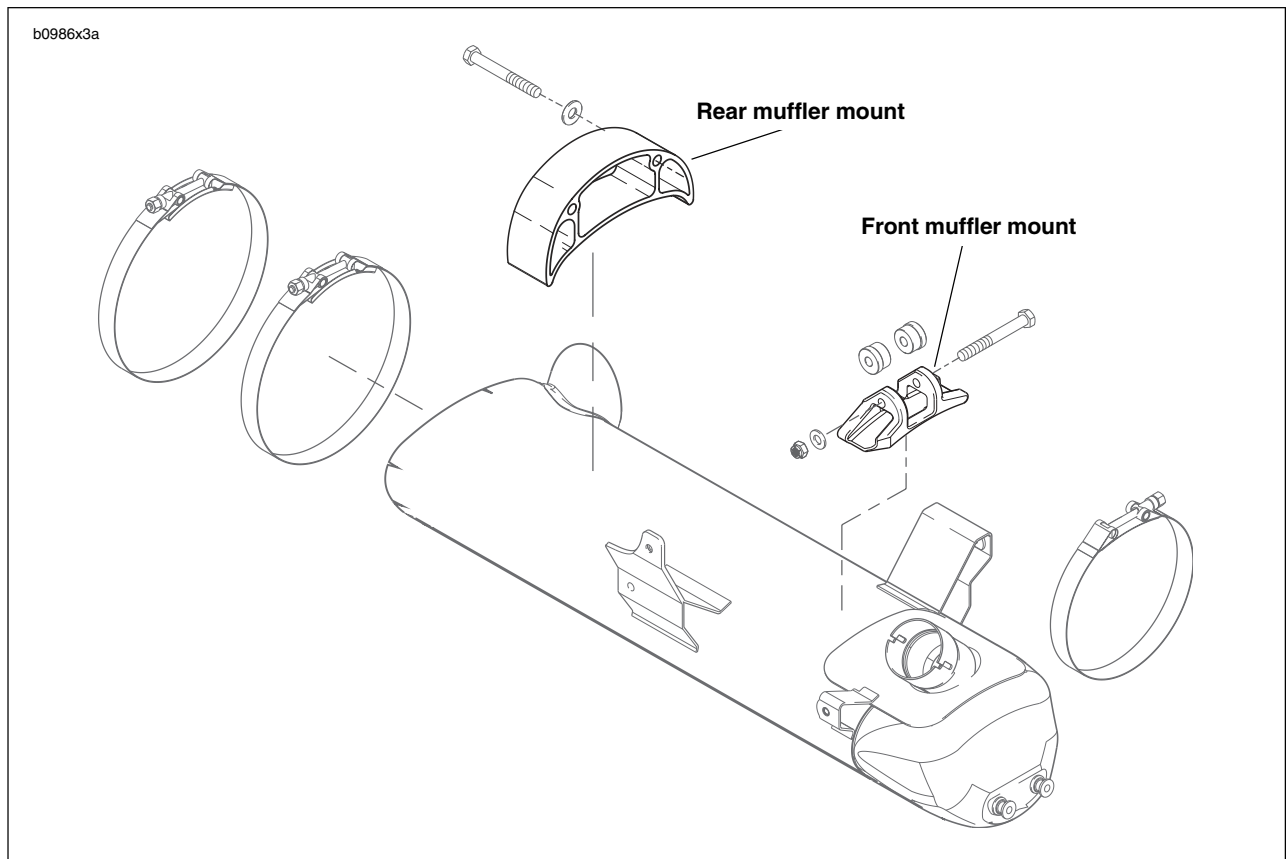

Figure 3-47. Muffler Mounting System
19. See Figure 3-47. Install rear muffler bracket and torque to 32-36 ft-lbs (43.4-48.8 Nm).